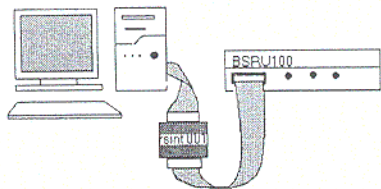

Figure 3: BSRU100™
Using KP's Gup10™ Utility Program, the BSRU100™ parameter values listed below can be programmed or modified. An RSINT001 adapter connects between BSRU100 and a PC (see Figure 3).
1. Connect BSRU100™ to a PC using the RSINT001 adapter (see Figure 3).